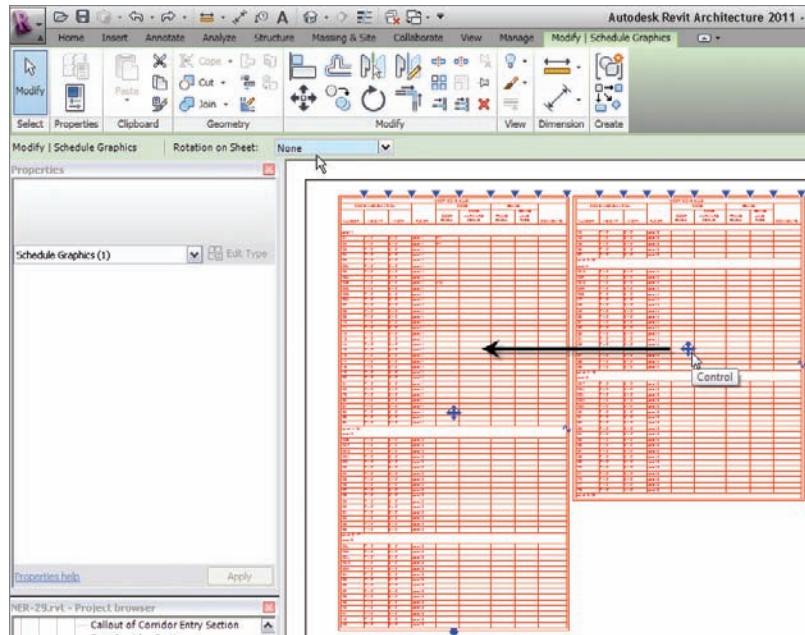

FIGURE 11.21 You can rotate the schedule on the sheet, and you can also join the columns back together if you need to.
Notice that on the Modify | Schedule Graphics tab, there is a Rotation On Sheet menu on the Options bar, as shown near the upper left of Figure 11.21. You do not need to change the rotation—just note that it is there.
2. Also notice the blue move grips, as shown in Figure 11.21, located in the middle of the two schedule columns. If you pick one and drag the column back over the top of the other, they will automatically join back together (see Figure 11.21).